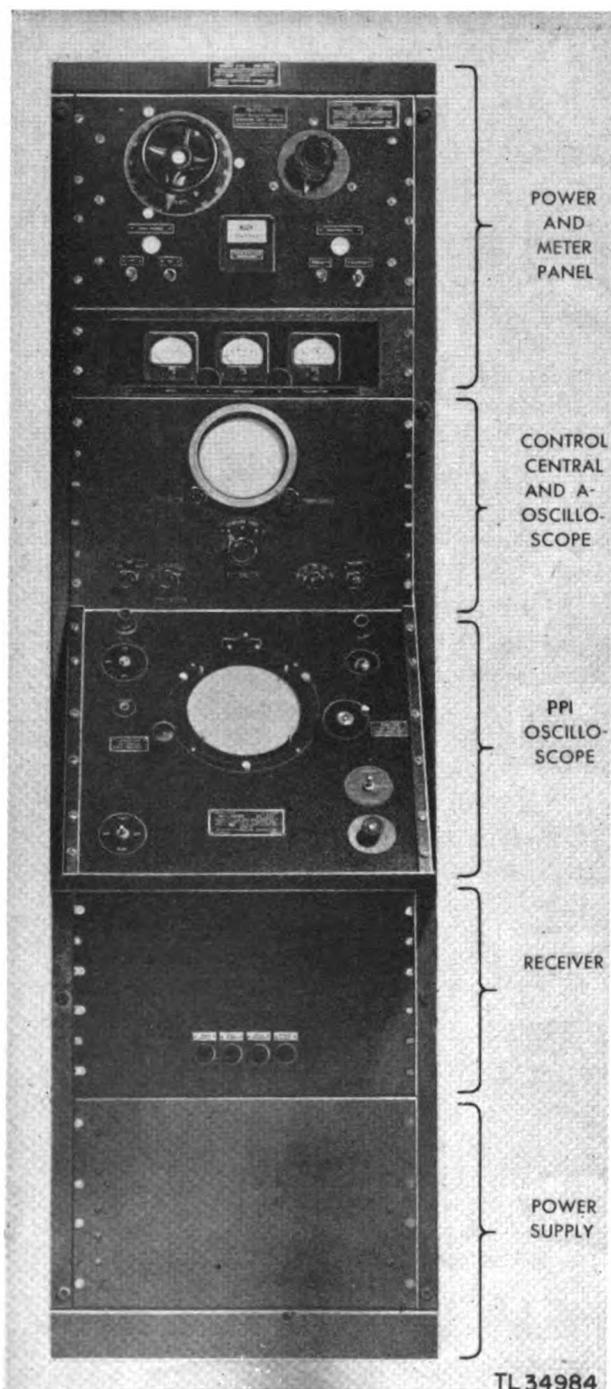
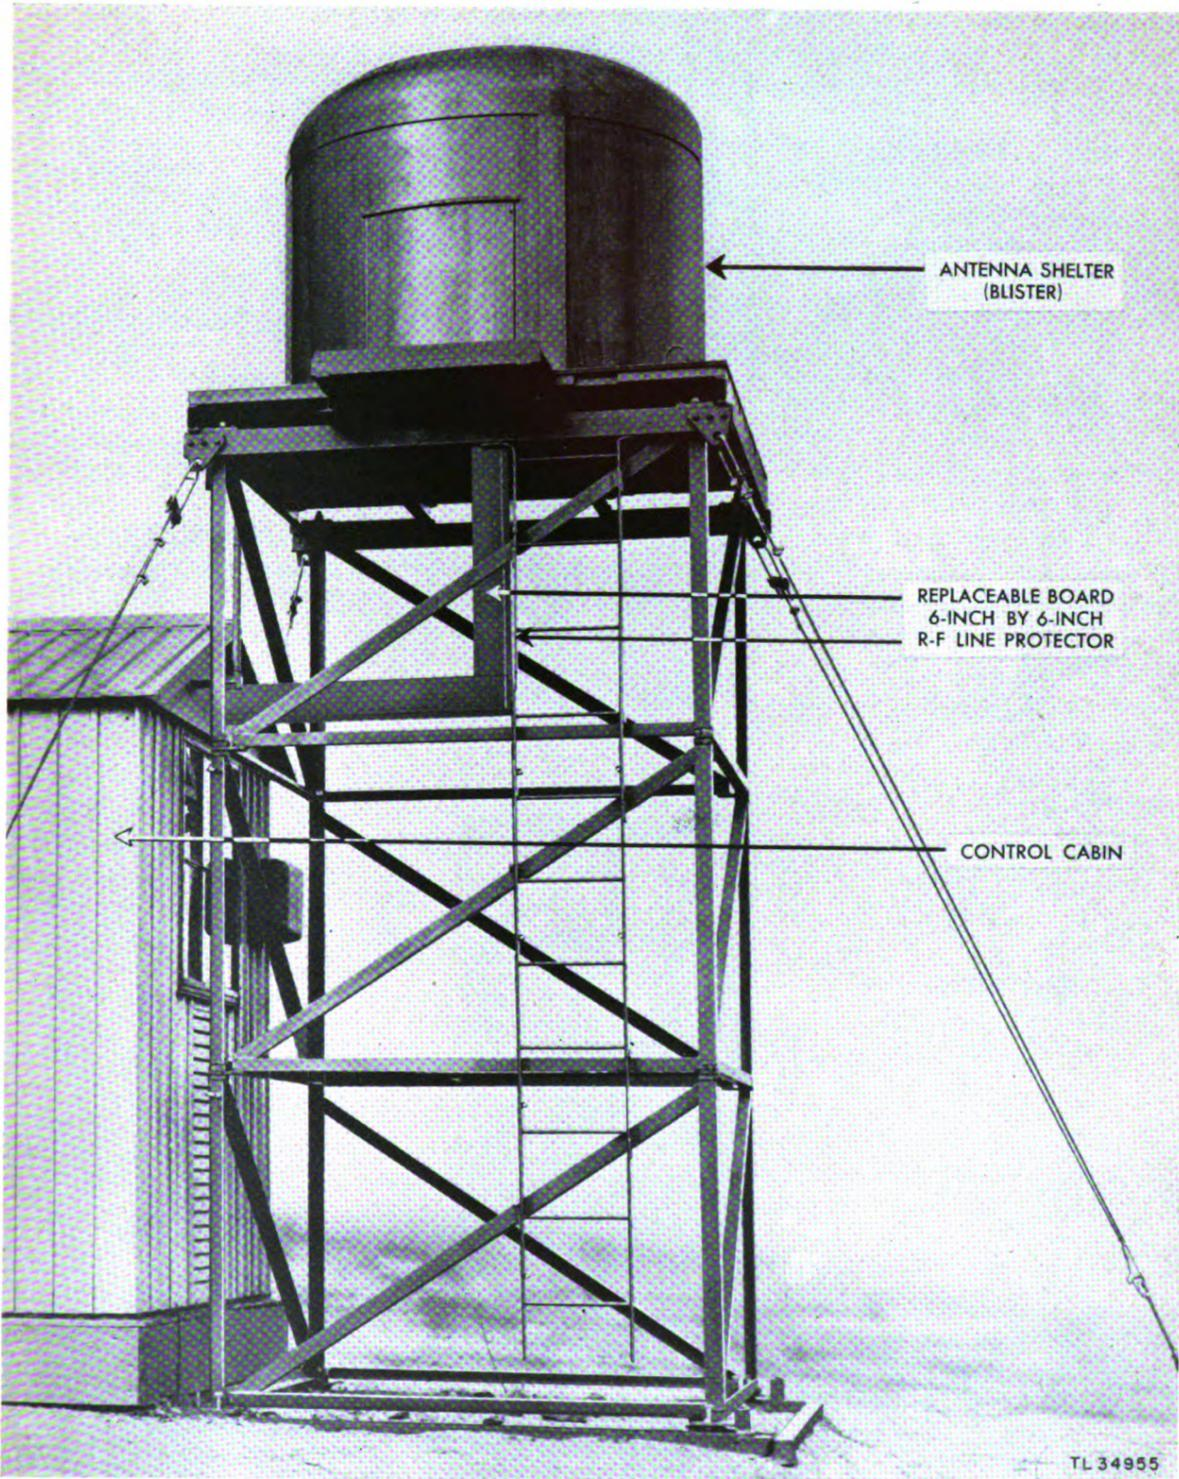
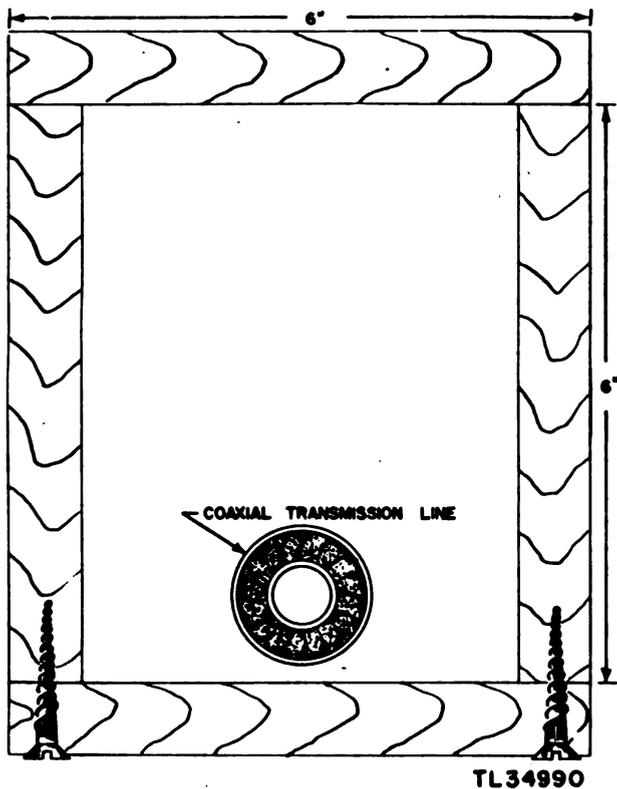

Figure 5. Front view of control cabinet.
Figure 12. Radio Set SCR-532(\*) installed on a cliff.
Figure 19. Line protector box.
A full-length front view of the control cabinet is shown in figure 5. The cabinet is 22 inches wide, 18 inches deep, and 76 inches high, with a desk extending 15½ inches from the front of the cabinet at the proper level for a seated operator. The complete cabinet with all components in place weighs 520 pounds. This main component
trol cabinet (fig. 5), and the amplidyne generator (fig. 7). If sufficient elevation is obtainable, the antenna equipment can be mounted on the roof of the building housing the other components. Figure 12 shows an installation on a cliff where it was possible to mount the antenna on a short
f. Where the r-f line is not protected by being inside a building, a protector should be built for it. Figure 12 shows such a line protector. It is a box made of 1-inch boards 6 inches wide. Figure 19 gives a cross-sectional view of the completed protector box. The side of the box nearest the r-f line should be attached with screws so that it can be removed when it is necessary to make repairs on the line.